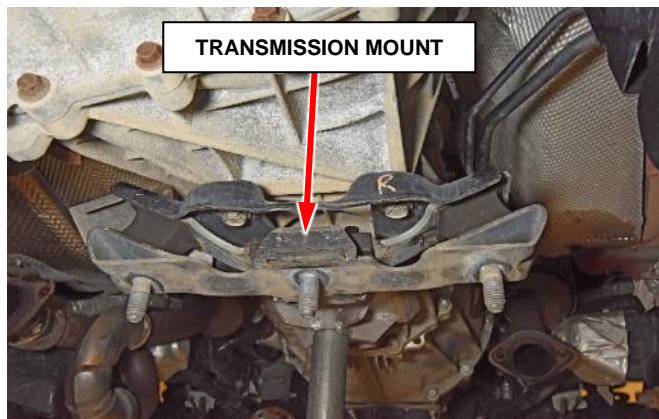

Figure 10 – Transmission Mount
24. Remove the transmission mount (Figure 10).